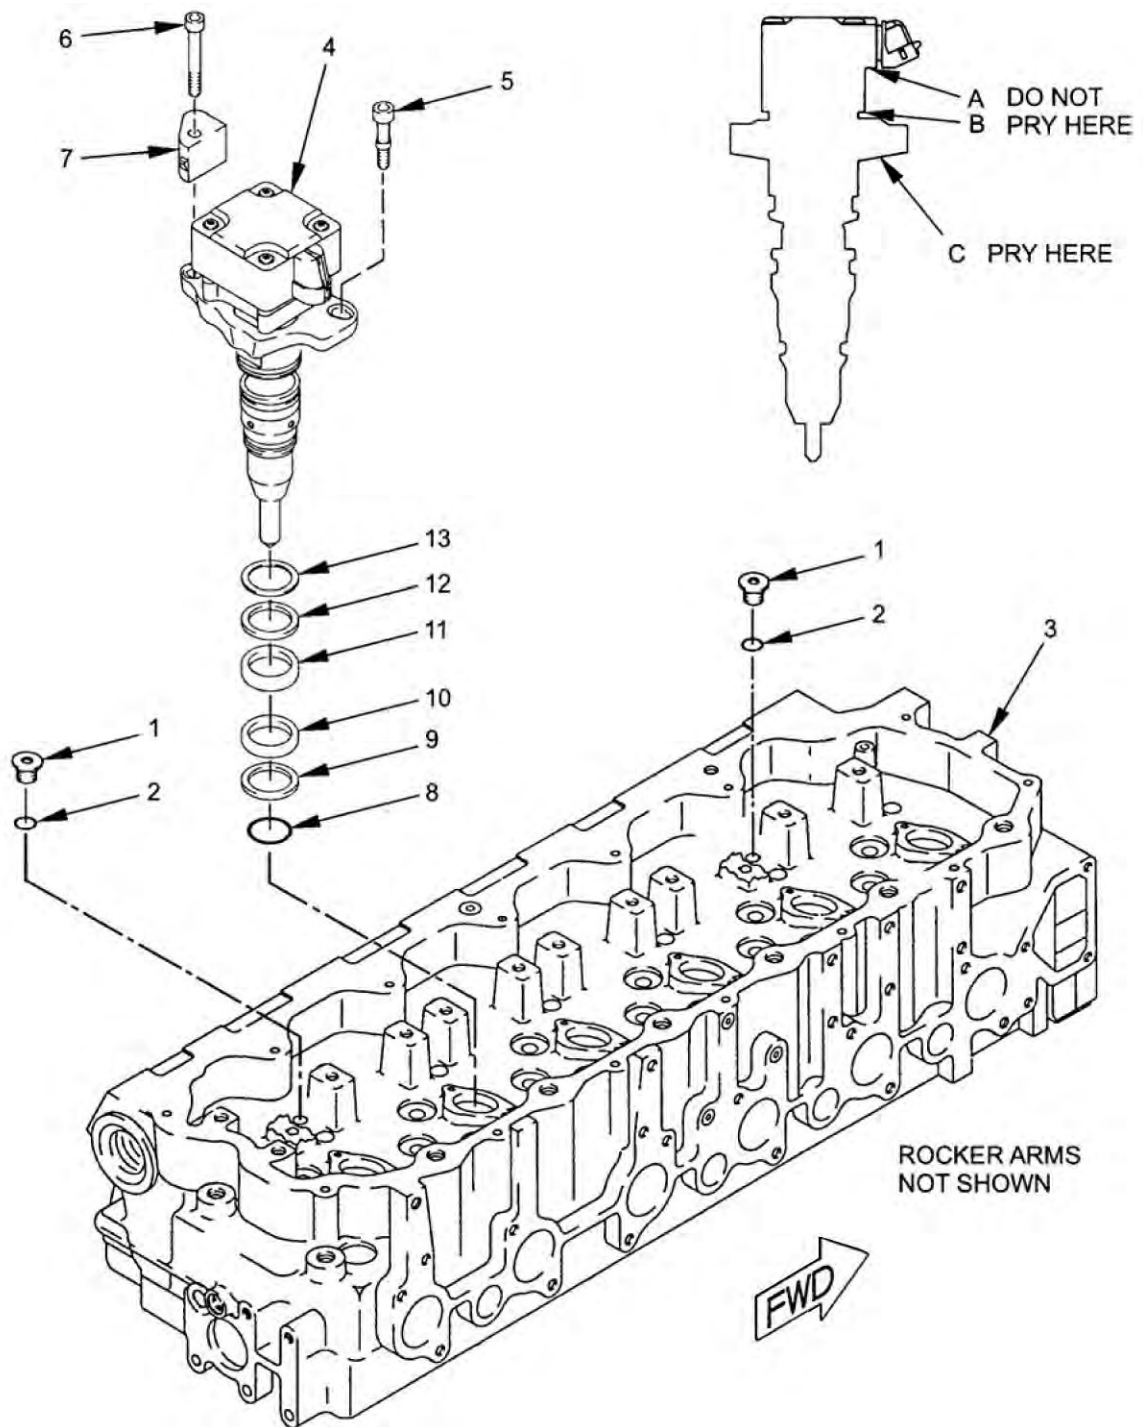

Figure 1. Unit Injector.
1. Install backup ring (Figure 1, Item 13), backup ring (Figure 1, Item 12), seal (Figure 1, Item 11), seal (Figure 1, Item 10), backup ring (Figure 1, Item 9), and seal (Figure 1, Item 8) on unit injector (Figure 1, Item 4).
2. Lubricate seals and backup rings (Figure 1, Item 8) through (Figure 1, Item 13) with engine oil.
3. Clean unit injector seating surface on cylinder head (Figure 1, Item 3).
4. Push unit injector (Figure 1, Item 4) straight into injector bore with the hand on top of the injector solenoid.
5. Install deflector (Figure 1, Item 7), bolt (Figure 1, Item 6), and shoulder bolt (Figure 1, Item 5). Torque bolt (Figure 1, Item 6) to 79-133 lb•in (9-15 N•m). Torque shoulder bolt (Figure 1, Item 5) to 45-63 lb•in (5-7 N•m).
6. Connect unit injector harness connector to unit injector (Figure 1, Item 4).
7. Repeat steps 1 through 6 for remaining unit injectors (Figure 1, Item 4).
8. Install two O-rings (Figure 1, Item 2) and oil drain plugs (Figure 1, Item 1) in cylinder head (Figure 1, Item 3).